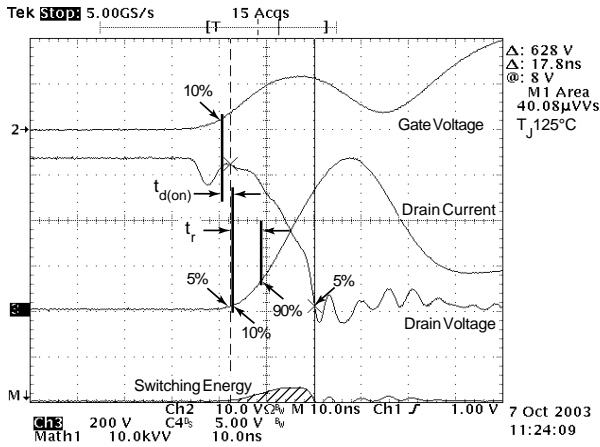

Figure 18, Turn-on Switching Waveforms and Definitions
① Repetitive Rating: Pulse width limited by maximum junction temperature
② Pulse Test: Pulse width < 380 μs , Duty Cycle < 2%
③ See MIL-STD-750 Method 3471
④ Starting $T_j = +25^\circ C$, $L = 53.13mH$, $R_G = 25\Omega$, Peak $I_L = 4A$
⑤ dv/dt numbers reflect the limitations of the test circuit rather than the device itself. $I_S = -I_D 4A$ $di/dt \leq 700A/\mu s$ $V_R \leq V_{DSS}$ $T_j \leq 150^\circ C$
⑥ E_{on} includes diode reverse recovery. See figures 18, 20.